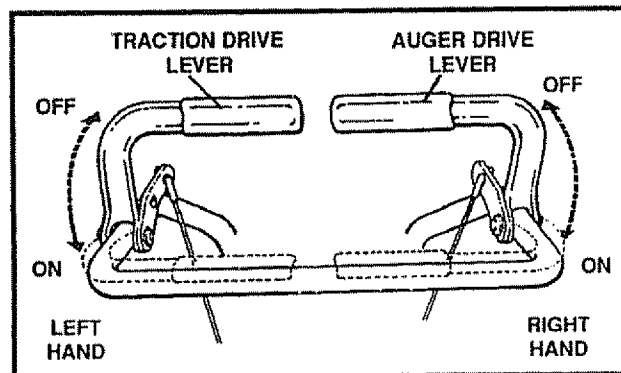

FIG. 11
- To stop throwing snow, release the auger drive lever (See Fig. 11, page 12).
- To stop the traction drive, release the traction drive lever. (See Figure 11, page 12).
- Engage the traction drive lever (See Fig. 11, left hand). As the snow thrower starts to move, maintain a firm hold on the handles, and guide the snow thrower along the clearing path. Do not attempt to push the snow thrower.
- Push down the auger drive lever (See Fig. 11, right hand).